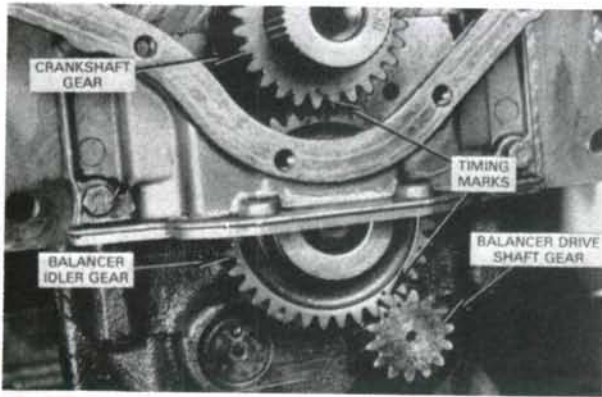
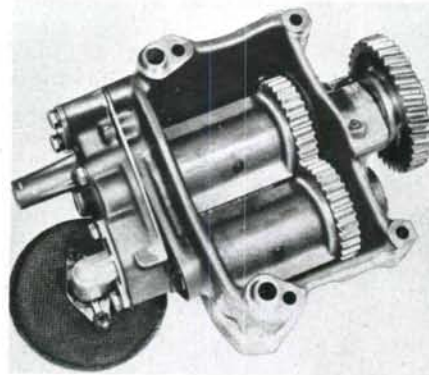
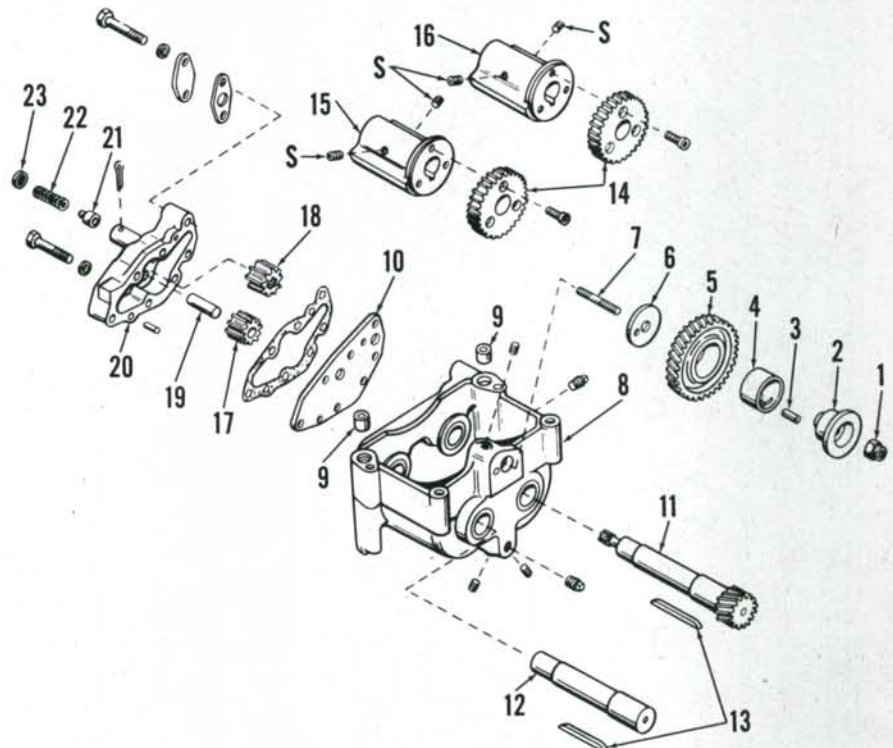

Fig. 107—Installed view of engine balancer with timing marks aligned. Refer to text for installation procedure.
Fig. 108—Assembled view of removed early style engine balancer and oil pump unit. Refer to Fig. 109 for exploded view.
Fig. 109—Exploded view of engine balancer and engine oil pump used on early production engines (prior to engine S.N. U880190K).
The balancer unit is driven by the crankshaft timing gear through an idler gear attached to balancer frame. The engine oil pump is mounted at rear of balancer frame and driven by the balancer shaft. Refer to Figs. 107 through 109.
Turn crankshaft until No. 1 and No. 4 pistons are at the exact bottom of their stroke. Remove balancer idler gear (5—Fig. 109) if necessary, and reinstall with single punch-marked tooth of idler gear meshed between the two marked teeth on weight drive shaft as shown in Fig. 107. Install balancer frame with balance weights hanging normally (flat surfaces of weights aligned and facing upward). If carefully installed, timing will be correct although timing marks at front of engine may not be aligned. (Marks align only occasionally when engine is running.) If engine is mounted in stand or tractor front end is removed, timing marks can be observed by removing timing gear cover.
When reassembling balancer, use Loctite 242 on threads of screws retaining gears (14—Fig. 109) to balance weights and on threads of set screws (S) retaining balance weights to shafts. Make certain that flat surfaces of weights are aligned and facing upward as shown in Fig. 108, then install idler gear aligning single timing mark on idler gear with double timing marks on balancer drive gear. Tighten idler gear retaining nut to 54 N·m (40 ft.-lbs.) torque.
**101. OVERHAUL.** Refer to Fig. 109 for an exploded view of balancer frame and associated parts. To disassemble the removed balancer unit, unbolt and remove oil pump housing (20) and associated parts; and idler gear (5) and associated parts. Set screws (S) retaining balance weights (15 and 16) are installed using "Loctite 242 Threadlocker." Loosen screws, then push balance shafts (11 and 12) forward out of frame and weights.
**NOTE:** Use care when removing shafts not to allow keys (13) to damage frame bushings.
**106.** The gear type oil pump is mounted on engine balancer frame and driven by balancer shaft as shown in Fig. 109. Oil pump can be removed after removing oil pan.
Examine pump body (20—Fig. 109), gears (17 and 18) and plate (10) for wear or scoring and renew any parts that are questionable. Pump gears must be renewed as a pair. Check parts against the following values: